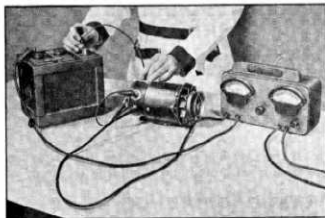

Fig. 34—Motor the Generator
- Motor the generator (fig. 34) by grounding the field terminal to generator frame, connect the generator positive terminal to positive terminal of battery with a good ammeter in